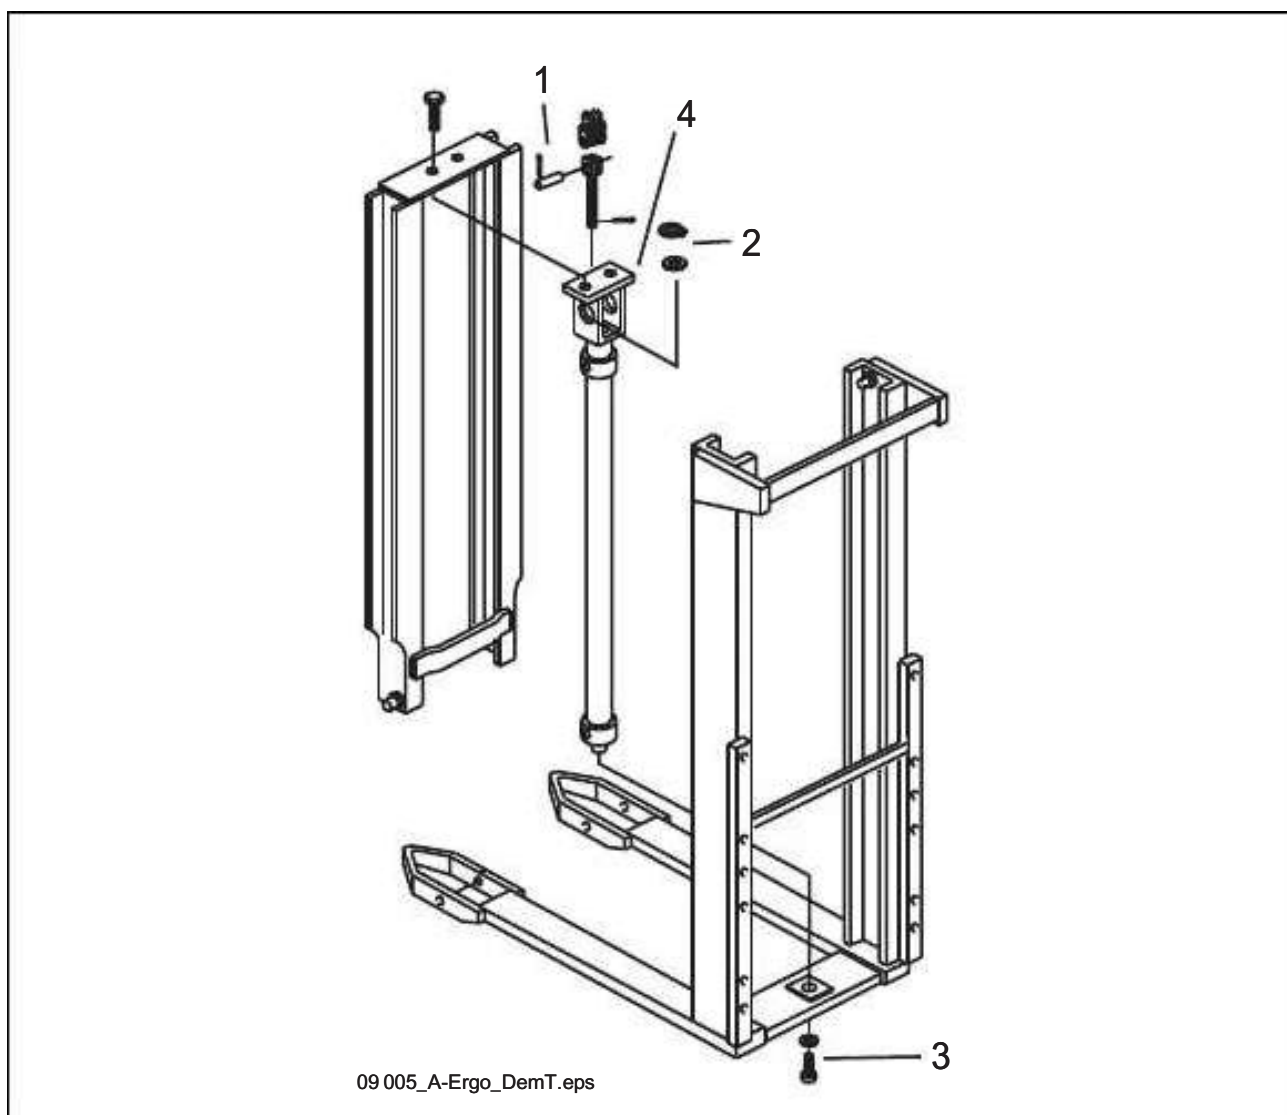

**Figure 9.5** Lift cylinder
1. Lower down the forks, e.g. on a pallet, so that the chain slackens. Remove the split pin bolt, pos. 1, see Figure 9.5, that sits in the top end of the cylinder.
5. Secure the cylinder so that it cannot drop out of the mast! Remove the circlip, pos. 2, and remove the lower retaining screw, pos. 3.
6. Carefully lower so that the piston rod comes out of the yoke, pos. 4. When the piston rod is completely pushed in, remove the oil pipe and return pipe, and tilt forward the cylinder and lift it out.